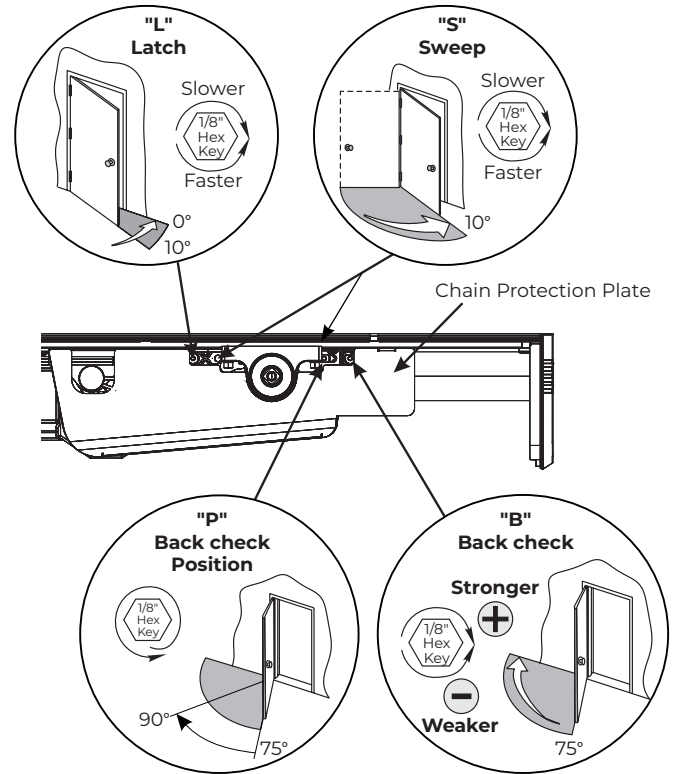

Figure 26 View of Left Hand operator from ceiling looking down
- Chain protection plate cutouts allow access to valves. Use hex wrench to make adjustments. (Figure 26)
1. Closing Speed Controls (Figure 26)
2. Opening Cycle (Figure 26)